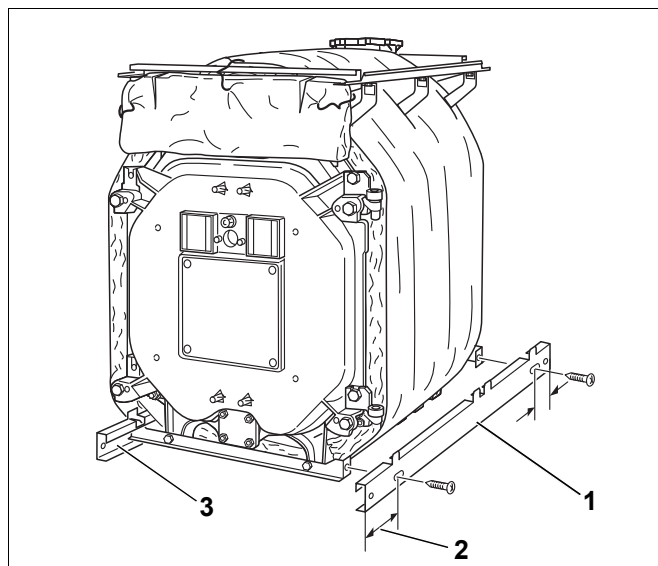

Fig. 47 Installing the lateral plinth rail
- Hook the lateral plinth rails (Fig. 47, [1] and [3]) respectively with the long overhang forward (Fig. 47, [2]) into the lower cross tie-bars.